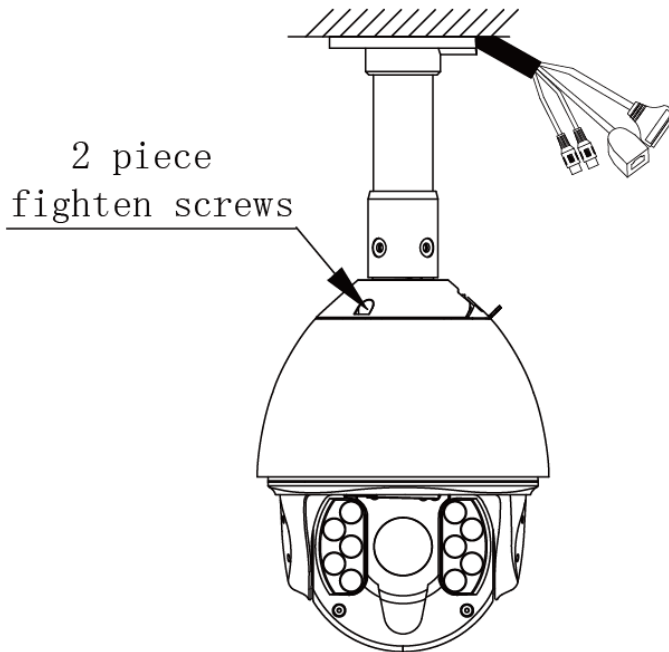

Figure 9
6. Please connect the system wire connector with the socket on the top of speed dome, after confirmation, please use both hands to hold the speed dome, speed dome flange and dome tight-fitting to prevent leaks, then please loosen the 2 pieces M4X15 tighten screws with screwdriver. As figure 9 shows.